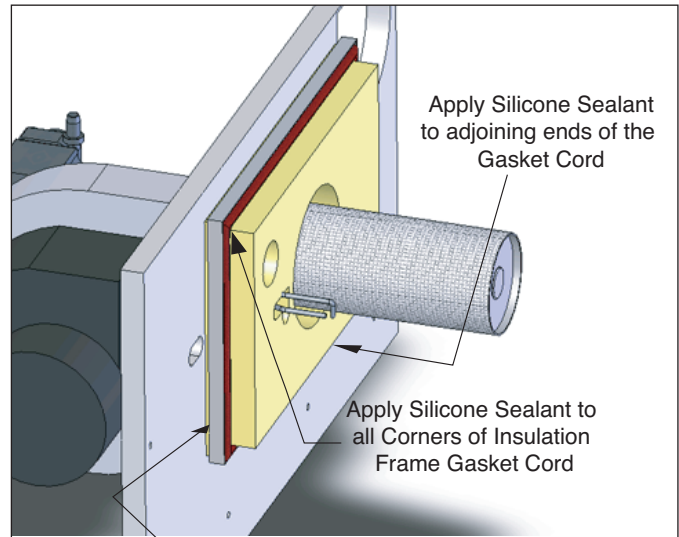

Fig. 5 : Flange Gasket Assembly
10. Starting at the midpoint on the bottom of the Insulation Block place the Gasket Cord in the gap between the frame and the block of insulation. Cut the cord to length to ensure both ends of the cord meet. Ensure cord is pressed firmly against the Insulation Frame. See Fig. 5.
11. To firmly seal the Gasket Cord ends apply a bead of Silicone along the joint where both ends of the cord meet. Also apply a bead of silicone in the corners to ensure the cord is completely sealed to the frame. See Fig. 5.